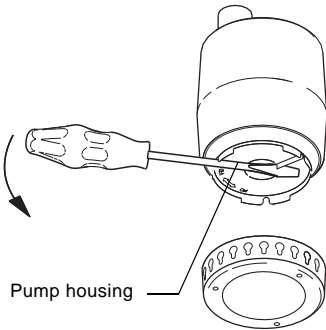

Fig. 8
2. Turn the pump housing 90° counter-clockwise using a screwdriver, see the arrow on the pump housing. Pull off the housing, see fig. 8.